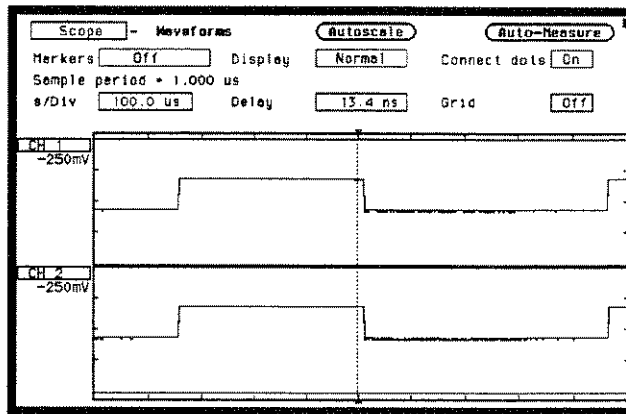

Figure 25-7. One Full Cycle Waveform
1. From the Waveform menu, select s/Div and change s/Div field to 100  $\mu$ s to display only one full cycle of the waveform. See figure 25-7.
3. Be sure the displayed waveform is at least one full cycle. If not, touch TRIG key, then select s/Div. Change s/Div field to 100  $\mu$ s to display only one full cycle of the waveform. See figure 25-7.